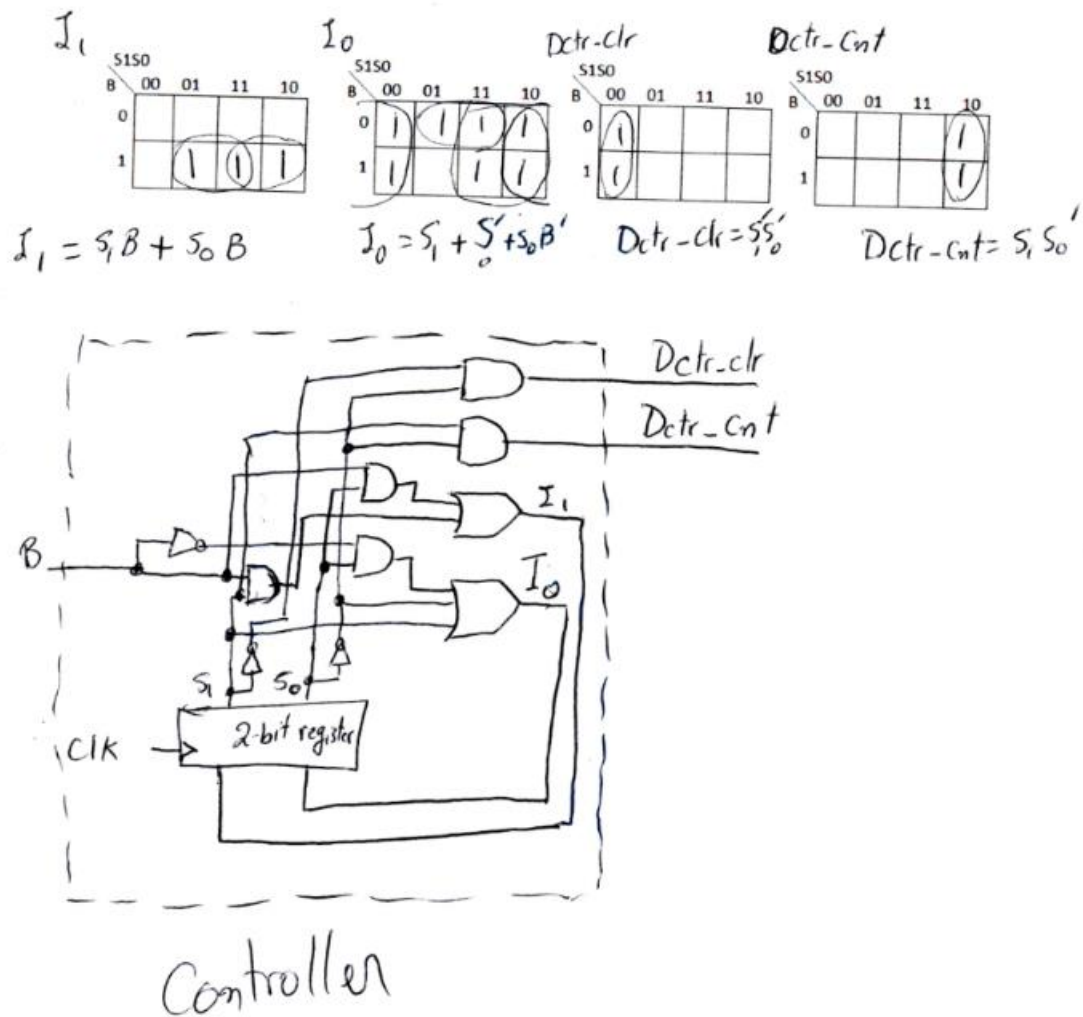

Figure 5 – Controller Design
5. Figure 5 shows the controller design. Steps 2 – 5 must be used if we want to design the processor at the gate level, otherwise we can directly write the VHDL model from FSMD as shown in step 6.